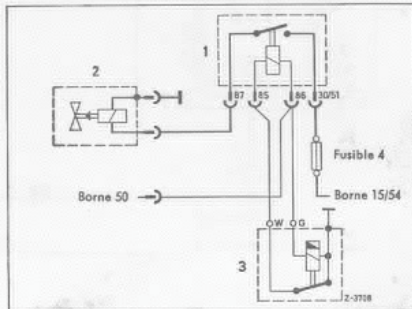

FIG. 6
5. Below a coolant temperature of 95 F, a COLD START SYSTEM (Fig. 6) is activated while cranking the engine.